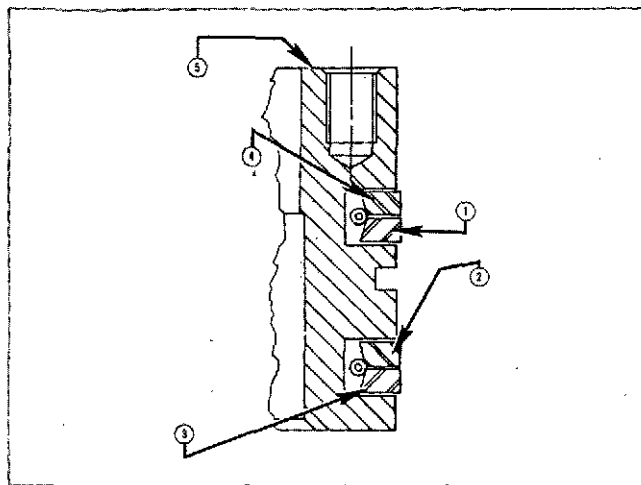

Fig. 14-1-88, V41467. Ring location
To install slinger assembly in housing, slide slinger over rear crank flange until No. 1 ring (3, Fig. 14-1-88) is at front face of housing. Position No. 1 ring split at 12 o'clock (3),